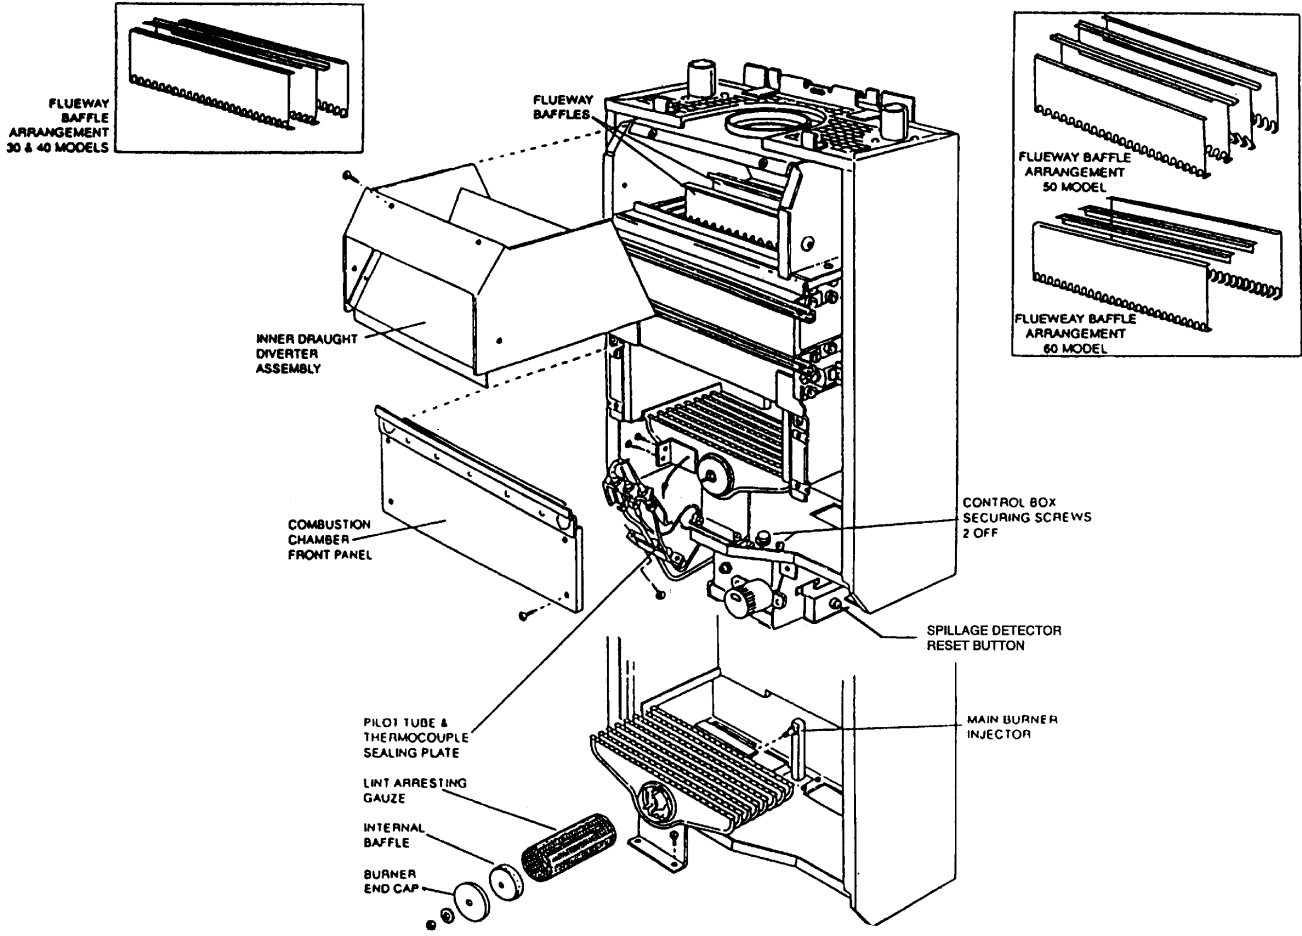

Figure 21 PREPARING THE BOILER FOR SERVICING
See Fig 21
- E. Remove the four securing screws and withdraw the inner draught diverter assembly from the mouth of the draught diverter. See Fig 21.
- E. Unscrew the MS nut securing the burner cap and remove end cap. Withdraw the internal baffle and gauze from within burner. See Fig 21. Thoroughly clean the gauze using a brush or vacuum cleaner. Clean all deposits from the surface of the burner flame strip with soft brush or vacuum cleaner and ensure there is no fluff in the entry of the burner venturi.
Working from above and below the heat exchanger use a suitable brush and remove all deposits from between the fins. When cleaning the front flueway protect the insulation inside the upper front panel by passing the front baffle into the flueway as illustrated in FIG. 21 B.
Refit the main burner ensuring it is correctly engaged onto the rear injector. Replacement of the other components is the reverse of removal. Ensure that the flueway baffles are refitted as illustrated in Fig 21 and the sealing plate and split grommets form a tight seal around the pilot tube and thermocouple capillary.
Refer to Fig 21 and carry out the following
- c Access to the pump over-run thermostat is made easier by separating the upper assembly of the control box from the boiler base. This is done by removing the two hexagonal head screws identified in Fig 21 Tilt the upper assembly and disconnect the electrical wiring from the thermostat as follows:-
- e Access to the boiler thermostat is made easier by separating the upper assembly of the control box from the boiler base. This is done by removing the two hexagonal head screws identified in Fig. 21.Tilt the upper assembly and disconnect the electrical connections from the rear of the thermostat as follows:-